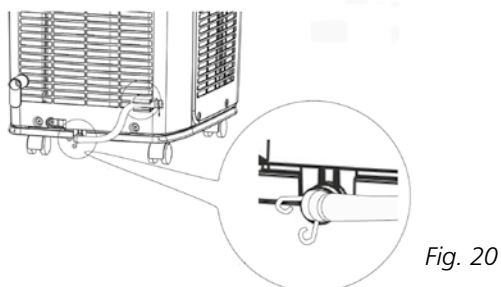

Fig. 20
- 2 Connect the supplied hose J (see fig. 1) to where the rubber plug was (see fig. 20) and fasten the hose with hose clip I.